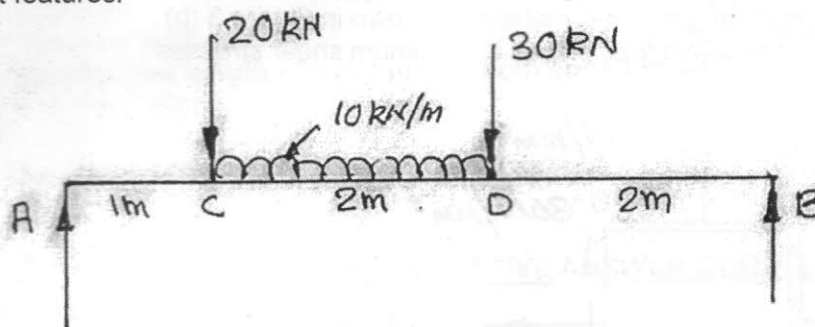

Figure 6 (a)
6. a) A beam AB is loaded as shown in Figure 6 (a). Draw SFD and BMD showing salient features.